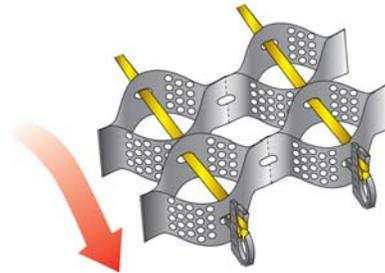

Figure 11 Termination of Integral Tendons
1. Terminate tendon on ATRA Tendon Clip. Refer to Figure 11.